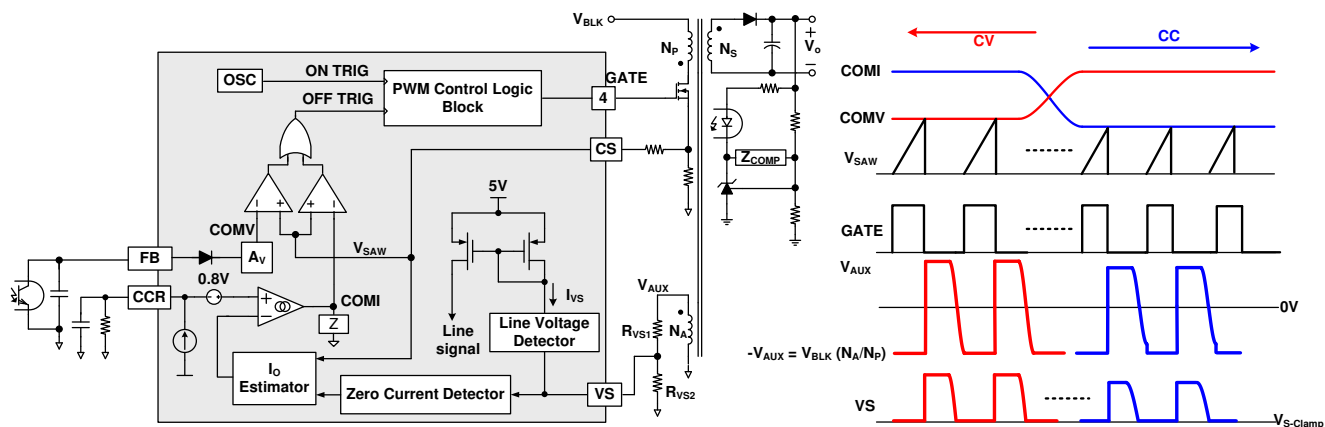

Figure 27 Simplified PWM Control Circuit and PWM Operation for CV/CC Regulation
The FAN604S indirectly senses the line voltage through the VS pin while the MOSFET is turned on, as illustrated in Figure 27. MOSFET turn-on period, the auxiliary winding voltage,  $V_{AUX}$ , is proportional to the input bulk capacitor voltage,  $V_{BLK}$ , due to the transformer coupling between the primary and auxiliary windings. During the MOSFET conduction time, the line voltage detector clamps the VS pin voltage to  $V_{S-Clamp}$  (0 V), and then the current  $I_{VS}$  flowing out of VS pin is expressed as:
Figure 27 shows a simplified CV / CC PWM control circuit of the FAN604S. The Constant Voltage (CV) regulation is implemented in the same manner as the conventional isolated power supply, where the output voltage is sensed using a voltage divider and compared with the internal reference of the shunt regulator to generate a compensation signal. The compensation signal is transferred to the primary side through an opto-coupler and scaled down by attenuator  $A_V$  to generate a COMV signal. This COMV signal is applied to the PWM comparator to determine the duty cycle.
These two control signals, COMV and COMI, are compared with an internal sawtooth waveform ( $V_{SAW}$ ) by two PWM comparators to determine the duty cycle. Figure 27 illustrates the outputs of two comparators, combined with an OR gate, to determine the MOSFET turn-off instant. Either of COMV or COMI, the lower signal determines the duty cycle. During CV regulation, COMV determines the duty cycle while COMI is saturated to HIGH level. During CC regulation, COMI determines the duty cycle while COMV is saturated to HIGH level.
Where Lm is the transformer's primary side magnetizing inductance. Since the output current error is proportional to the line voltage, the FAN604S incorporates line voltage compensation to improve output current estimation accuracy. Line information is obtained through the line voltage detector as shown in Figure 27. ICOMP is an internal current source, which is proportional to line voltage. The line compensation gain is programmed by using CS pin series resistor, RCS\_COMP, depending on the MOSFET turn-off delay, tOFF\_DLY. ICOMP creates a voltage drop, VOFFSET, across RCS\_COMP. This line compensation offset is proportional to the DC link capacitor voltage, VBLK, and turn-off delay, tOFF\_DLY. Figure 29 demonstrates the effect of the line compensation.